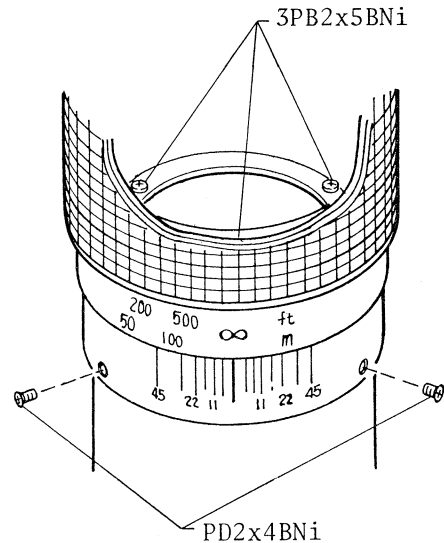

Fig.8
- 2) After setting helicoid to infinity, remove LF531-4161 focusing group by taking off three 3PB2x5BNi and PD2x4BNi screws as shown in Fig. 8.